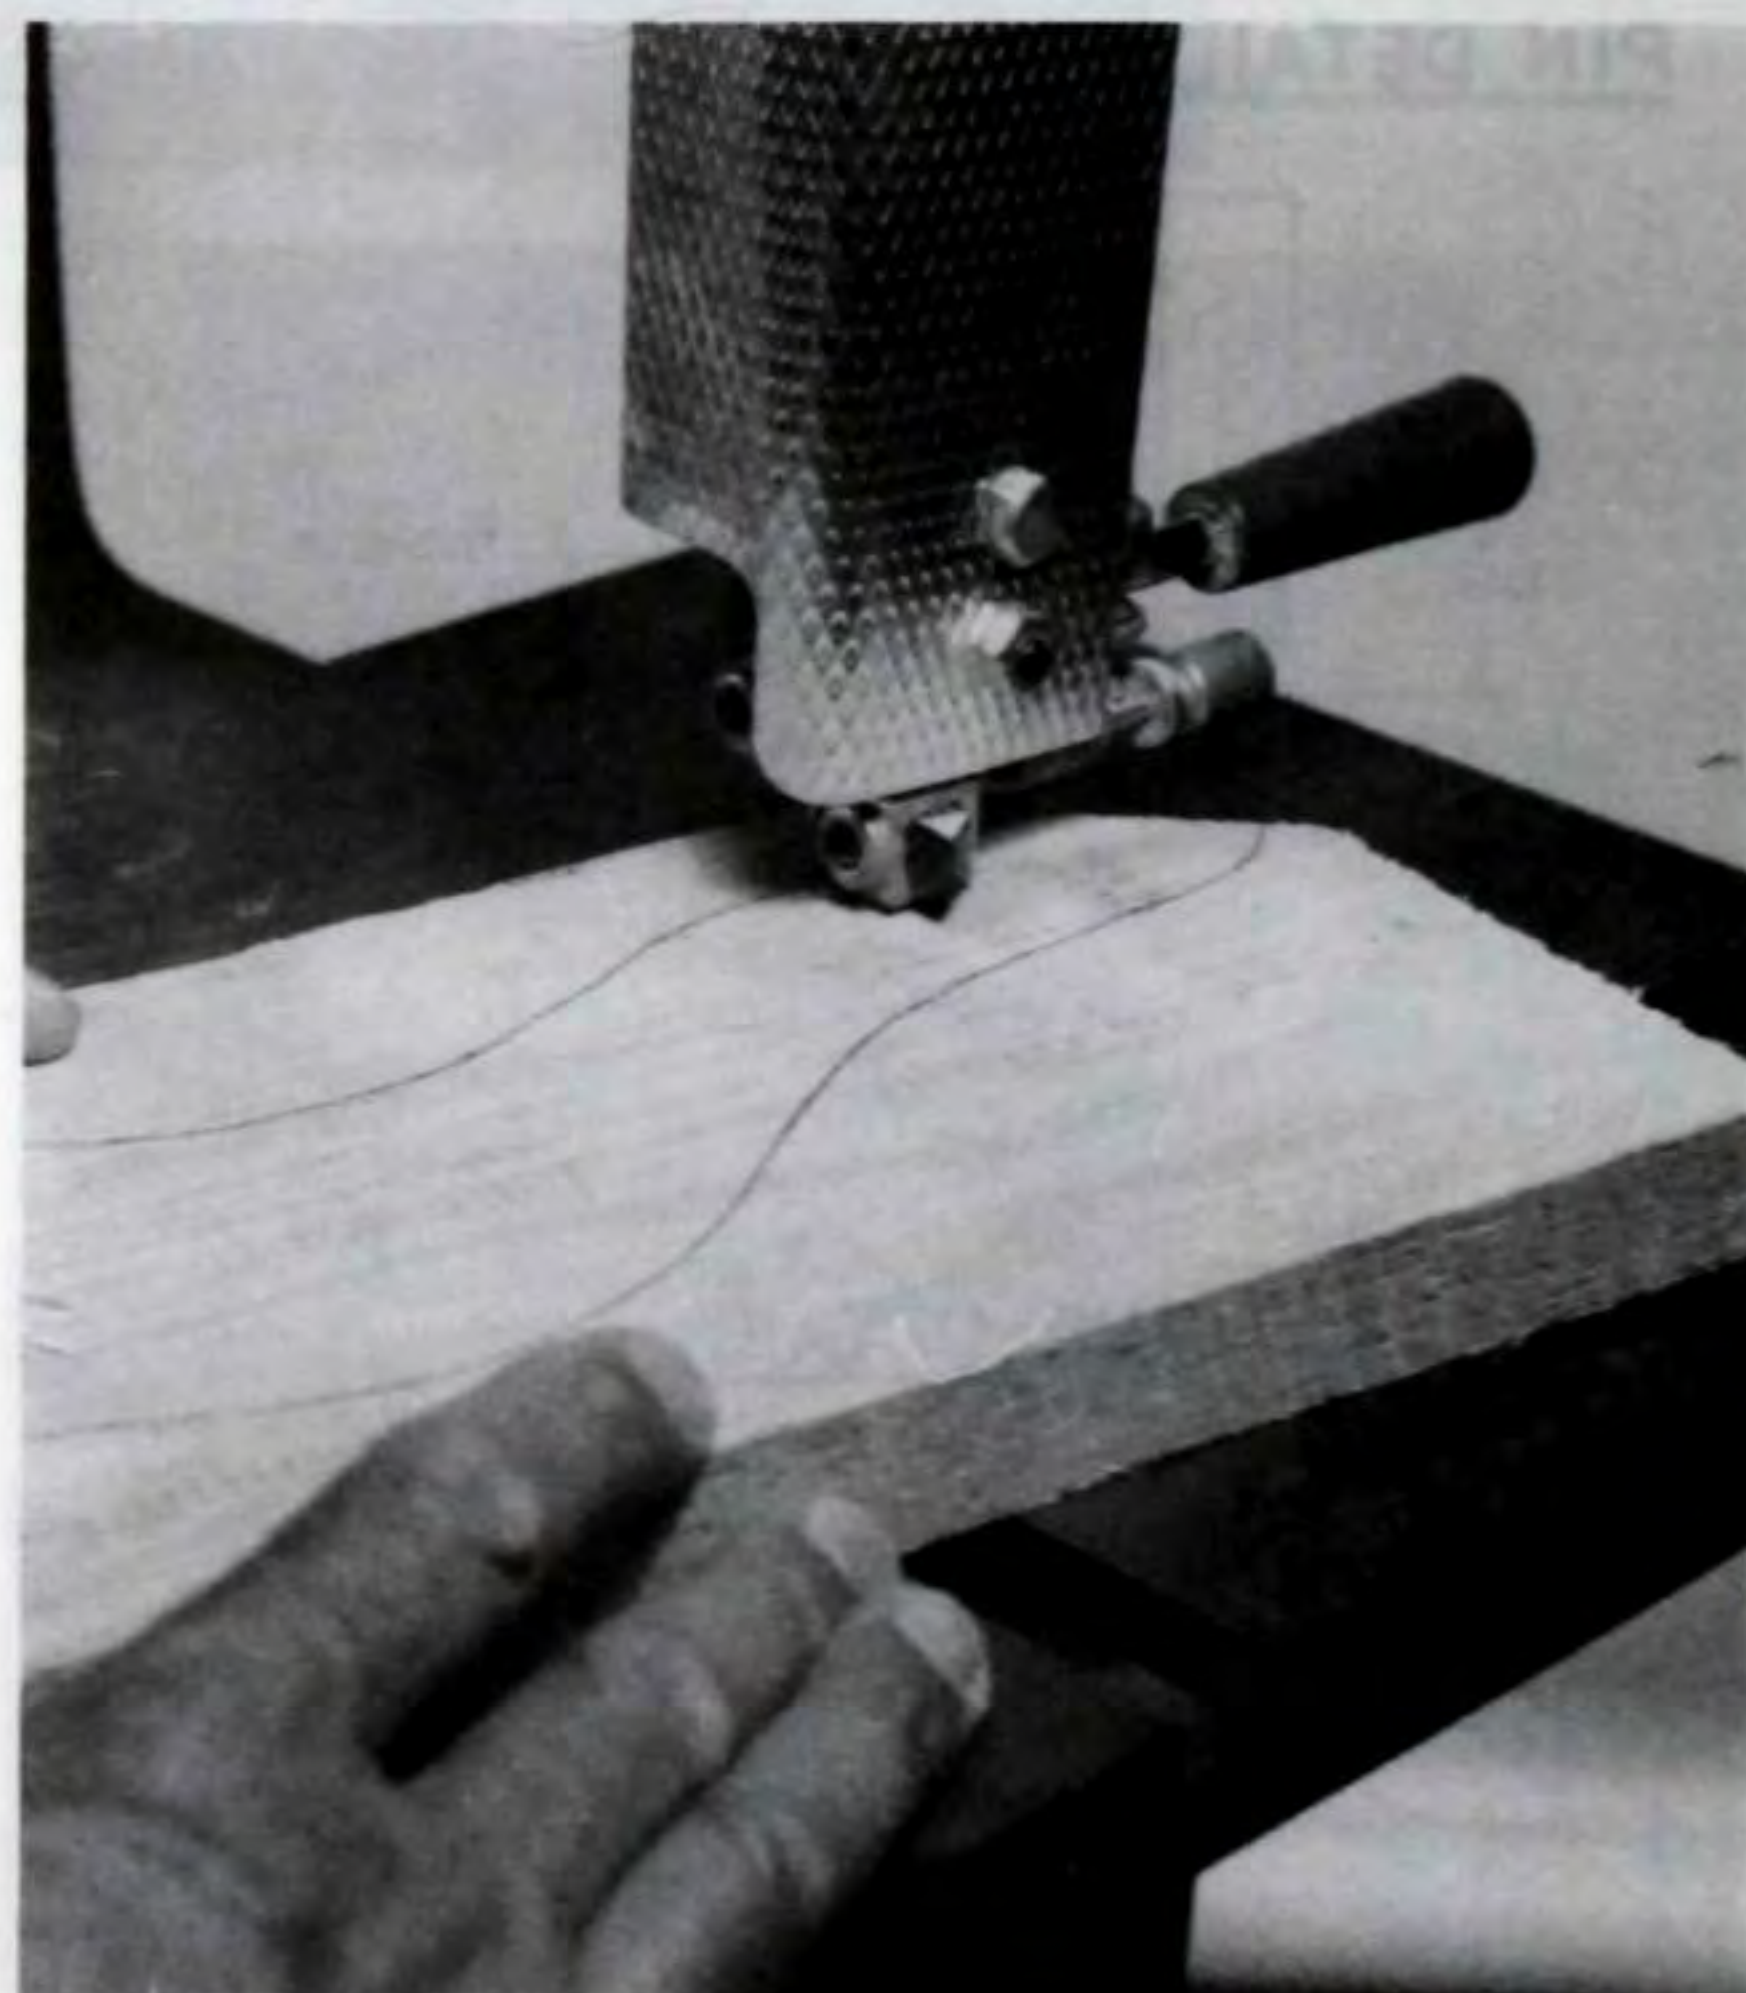

Figure 6. Lay out the leg (C) pattern, and carefully cut it out on a band saw equipped with a $\frac{3}{8}$ in. blade. Stay to the outside of the cutting line.
Next, drill ¾ in. screw pockets (Fig. 6) in the sides (B) and back (E) to hold the top in place. (The table base and top form a simple butt joint and need this reinforcement.)
Figure 6. Drill screw pockets in the sides (B). Drill at a 10 degree angle, with a 1/2 in. Forstner bit, to within 3/8 in. of the bottom. Use a 1/4 in. brad point bit to make pilot holes for the No. 12 round head screws. For clarity, guards not shown.